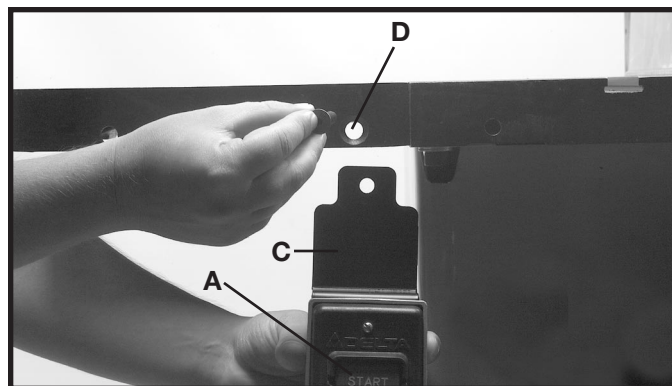

Fig. 9
2. Mount the switch bracket (C) Fig. 9, to the inside of through hole D) on the left front edge of the extension wing with the hardware that was removed.